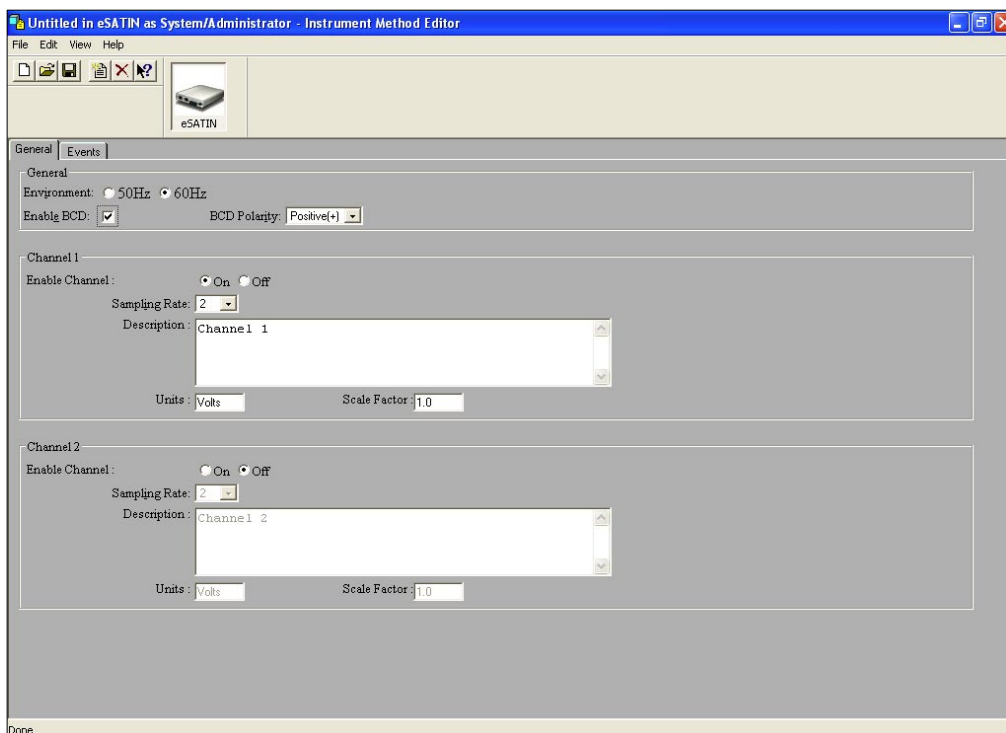

Figure 3-4 Instrument Method Editor, e-SAT/IN General Tab
5. The Instrument Method Editor appears. This window has a selection of instrument icons located in the window taskbar. Click **e-SAT/IN**. The e-SAT/IN General tab appears (Figure 3-4).
The General tab (Figure 3-4) contains specific preferences that affect the performance of the e-SAT/IN module. Refer to the “General Tab” topic in the *Empower Help*.